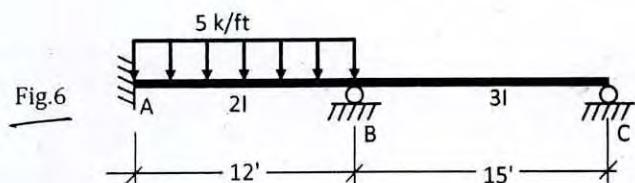

Fig.6
6. In addition to the load acting on the beam as shown in Fig. 6, support at A rotates 0.04 radian clockwise while the support at C moves up by 0.3 ft. Analyze the problem using flexibility method and draw the shear force and bending moment diagrams. Take $EI = 5000 \text{ k-ft}^2$ for this beam. (21)